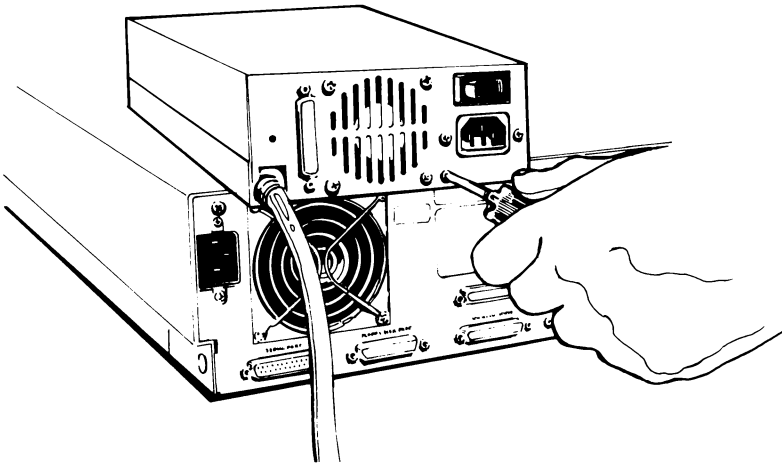

Figure 8
3. *Facing the rear of the tape drive, remove the screw that holds the bottom plate to the case (Figure 8).*